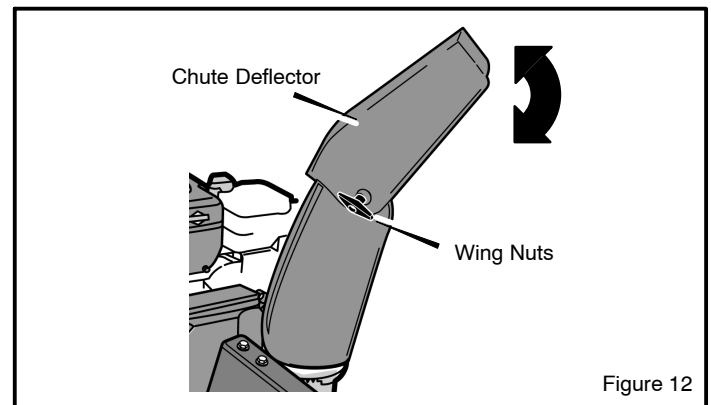

Figure 12
2. Adjust the **snow chute deflector**. Loosen the **wing nut** on the side of the **snow chute deflector**. Raise the **snow chute deflector** for more distance or lower for less distance. Tighten **wing nut**. (see Figure 12).